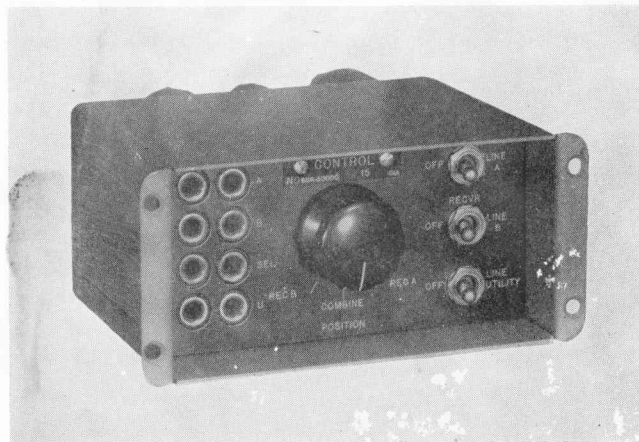

Figure 1-12. Control AN Type C-443/G, Front View
(8) CONTROL AN TYPE C-443/G (*Figure 1-12*).—Control AN Type C-443/G is the connecting link between the Signal Distribution Unit and the AF output from two radio receivers at each operator's position within the station, or any remote position included in the Distribution System. This component which is designed for mounting under the front edge of a Standard Navy Operator's Table (see figure 2-34) consists essentially of a three position rotary selector switch used for selection of either or both receiver outputs to the operator's phones, a set of toggle switches for connecting the receiver audio circuits to the Distribution Unit, and four pairs of phone jacks for the operator's headset connections. The operator's headset is normally connected to the set of jacks designated "SEL" which permits either or both receiver outputs to be impressed on the phones by the action of the three position rotary selector switch. The set of jacks designated "U" may be connected from a utility line to the operator's position. The jacks marked Receiver "A" and Receiver "B" are connected in parallel with the receiver outputs and are used to connect the operator's headset to each receiver without the use of the selector switch. The construction of all jacks is such that headsets equipped with Navy Type -49109 single plugs are inserted in the left hand jack, and those equipped with Navy Type -491242 twin plugs are inserted in both jacks.